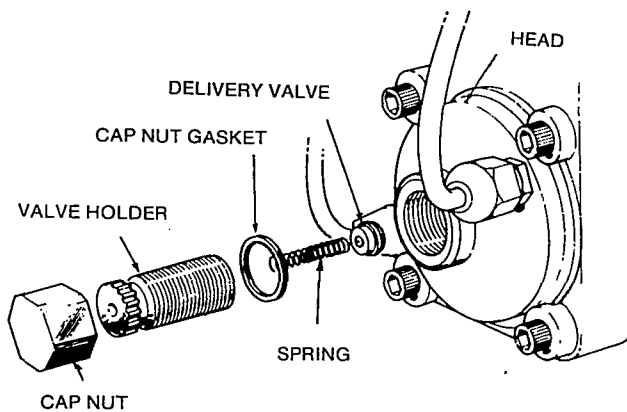

FIGURE 13. LATE MODEL DELIVERY VALVE ASSEMBLY
1. Install No. 12 timing button in new injection pump. Remove delivery valve cap nut and holder, take out spring and replace valve holder and cap nut (Figure 13 and 14).
10. On late model (Figure 13) injection pumps, remove delivery valve capnut and holder to install spring. Before installing delivery valve spring, push delivery valve back onto its seat using your little finger. Install spring and valve holder.